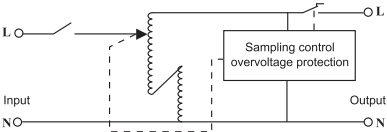

Figure 3 Single-phase 0.5kVA~10kVA Three-phase 1.5kVA~30kVA
2.4.2 The electric schematic diagram of single-phase 0.5kVA–10kVA is shown in Figure 3.